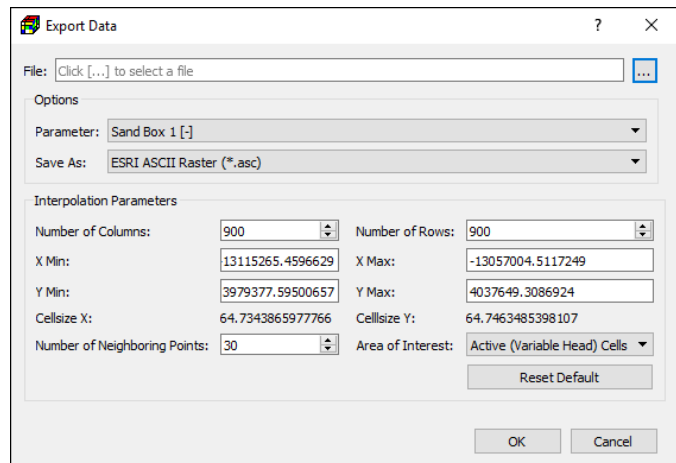

Figure 35. The Export Data dialog box
6. **Export:** Open the Export Data dialog box (Figure 35).